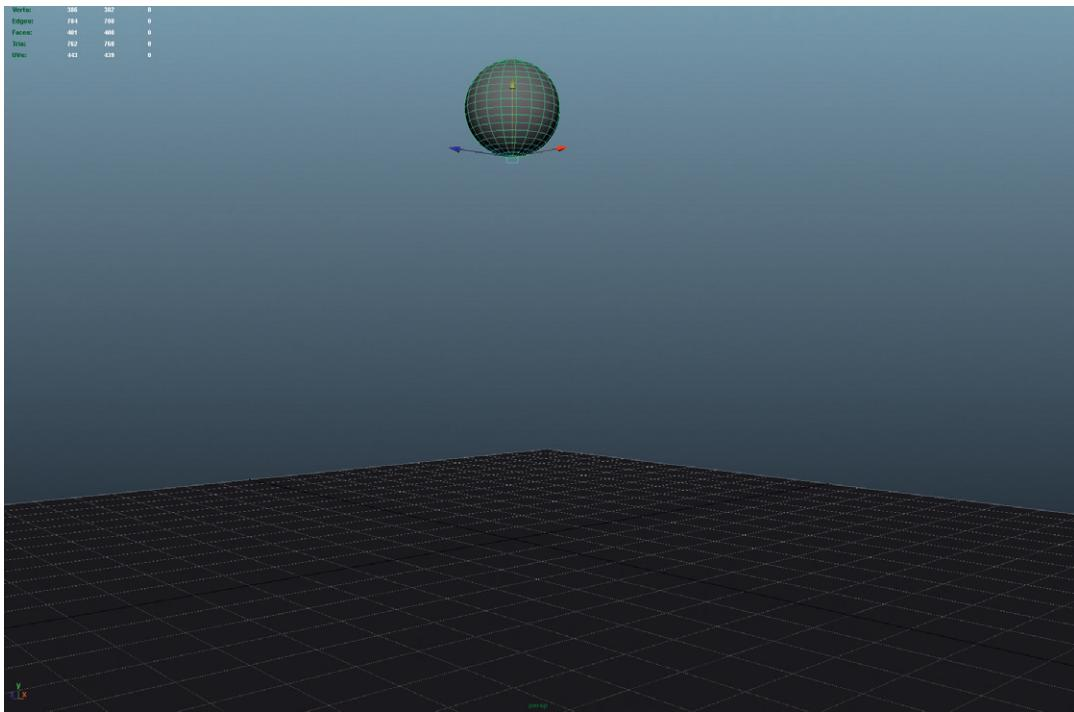

FIG. 9.6 Ball at the top of the hop.
Step 9: Set the keyframe for the top of the hop. To do this, move the Current Time Marker to frame 24. Use the Move Tool and move the sphere up into the air along the Y axis to where you figure the top of the hop would be (I'm using Y = 8). Then, in the Channel Box, change the Scale X, Y, and Z values to 1. Hit s to set the key (Fig. 9.6).